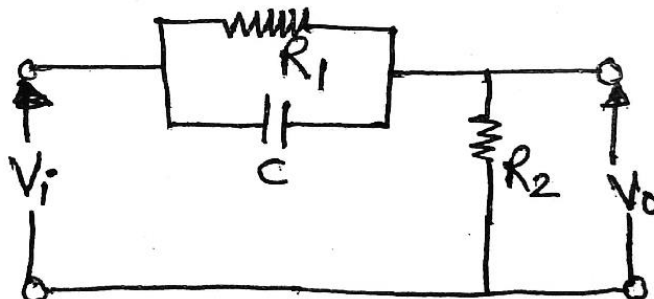

Fig .2 Network
- Q.3 a) Obtain Transfer Function of the lead Network shown below fig.2 07